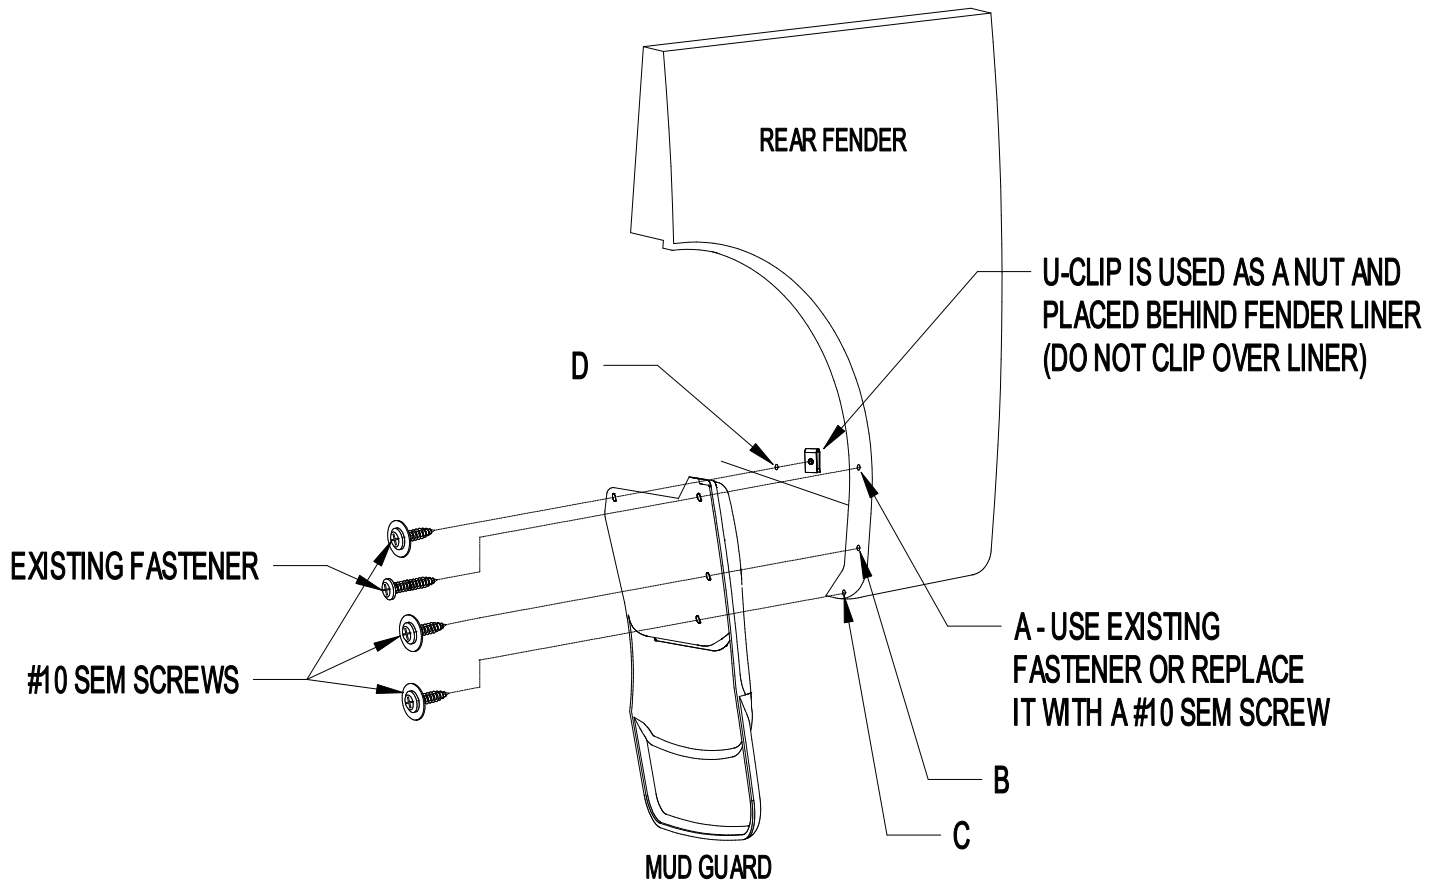

Figure 1
2. Remove existing fastener from location A, and install mud guard with existing fastener at location A (Figure 1), check fit and level before tightening.